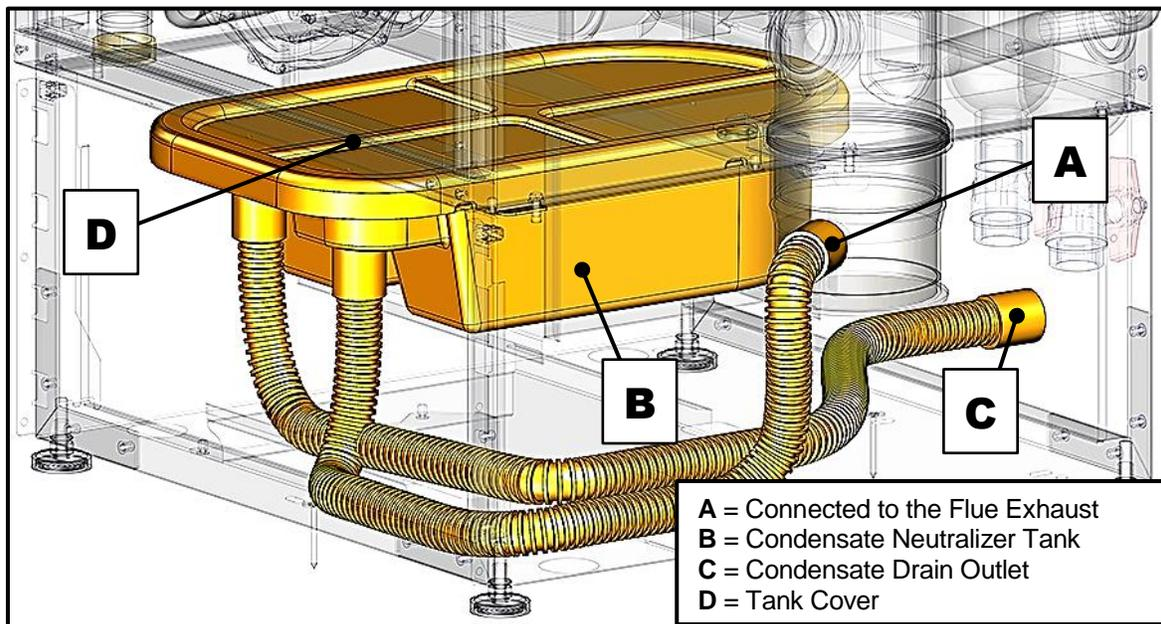
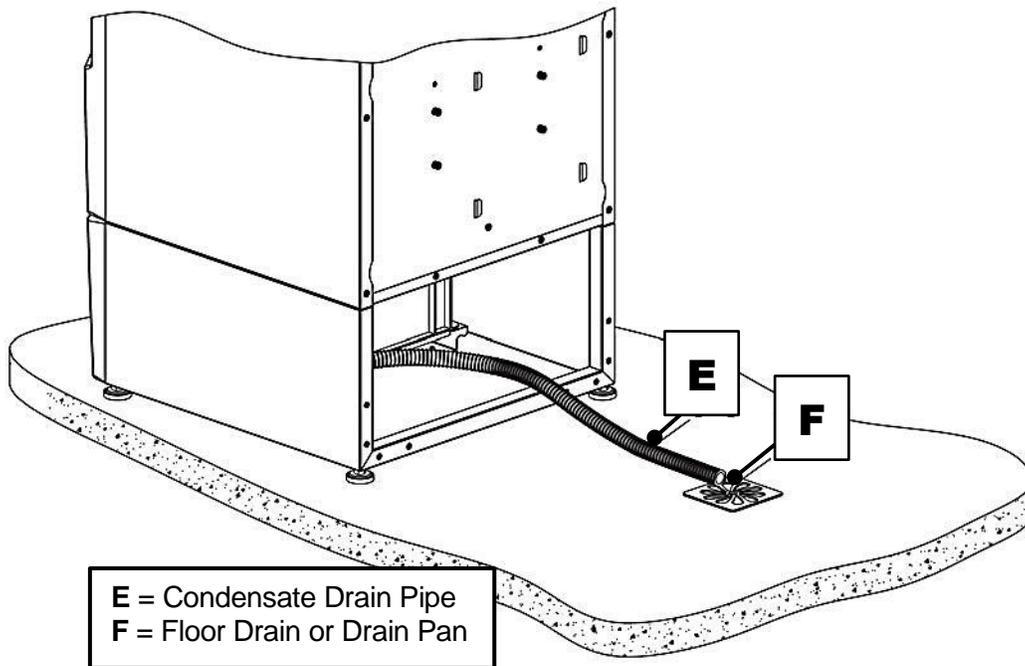

Figure 4-8: Condensate Neutralizer Tank (Unit Transparent for Clarity)
Figure 4-9: Condensate Tank Draining
The condensate trap (Fig. 4-8, item “B”) MUST be filled with water or combustion gases will enter the room. The condensate neutralizer tank must be installed into the unit exactly as shown in Figure 4-8. Do NOT remove the condensate neutralizer tank from its position while the unit is in operation, as this will result in dangerous carbon monoxide escaping and creating a very dangerous situation.
The unit is equipped with a condensate neutralizer tank for the evacuation of condensate and to prevent the leakage of combustion products. The condensate drains from the flue exhaust outlet “A” through pipe to condensate neutralizer tank, drains through pipe “C” (Figure 4-8) and “E” (Figure 4-9, and empties into the floor drain or drain pan, “F” (Fig. 4-9).
In newer units, hose “A” (Fig. 4-8) attaches to a port at the bottom of flue, rather than the side.
- slope the condensate tubing down and away from the boiler into a drain or drain pan (See Figure 4-9). Condensate from the boiler will be slightly acidic (around pH 4). The neutralizing tank (see Figure 4-8, item “B”) is built into the boiler and will neutralize the condensate products;